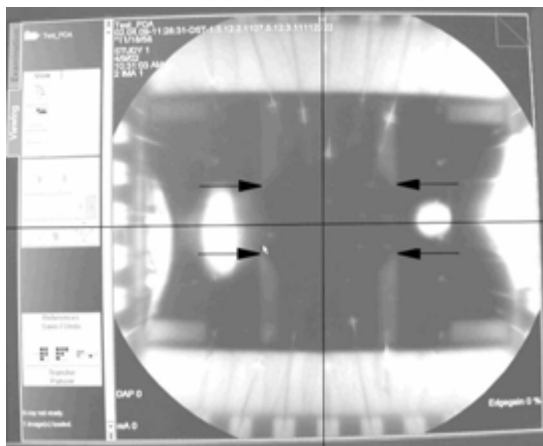

Fig. 17: PDA 1
- To evaluate the stored image, use the outer corners of the light sensor, see \(Fig. 17 / p. 24\).